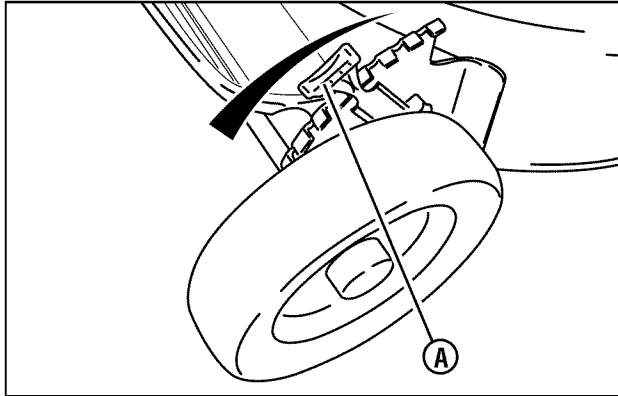

Figure 8: Adjusting cutting height
1. Pull the height adjusting latch (**A**, **Figure 8**) outward and move to the desired cutting height.